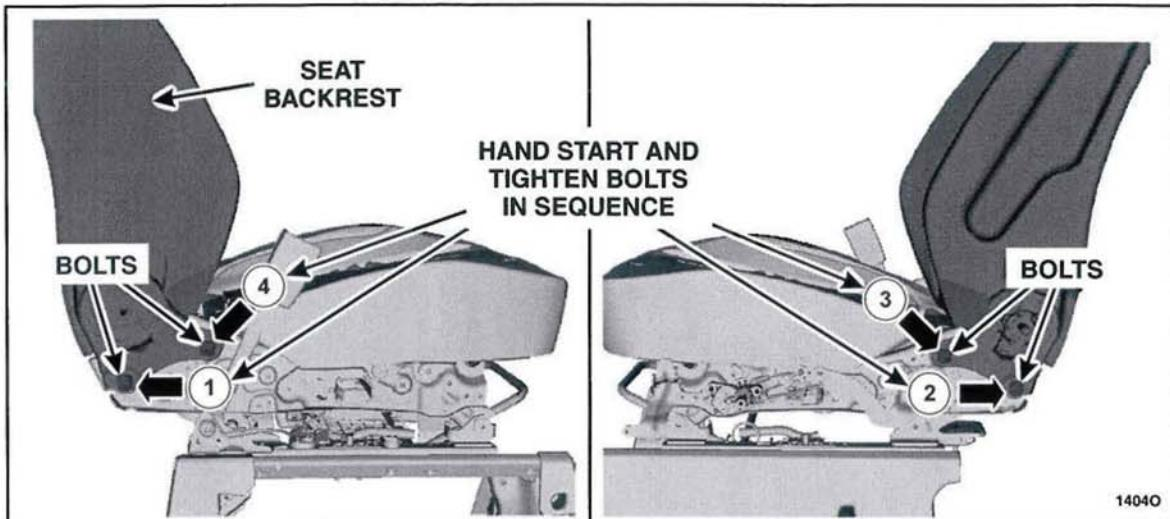

FIGURE 20
- a. Thread all four *new* torx bolts approximately four turns by hand in the sequence shown in Figure 20.
- b. Tighten torx bolts to 45 Nm (33 lb-ft) in the sequence shown in Figure 20.